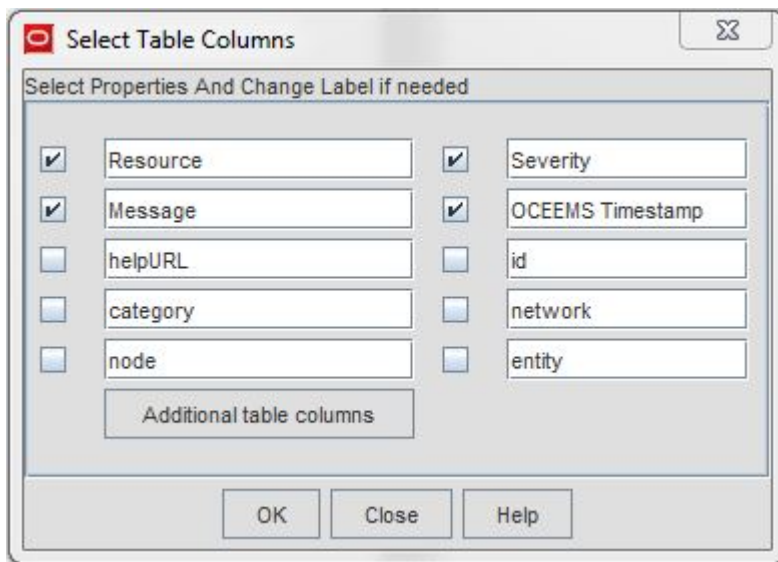
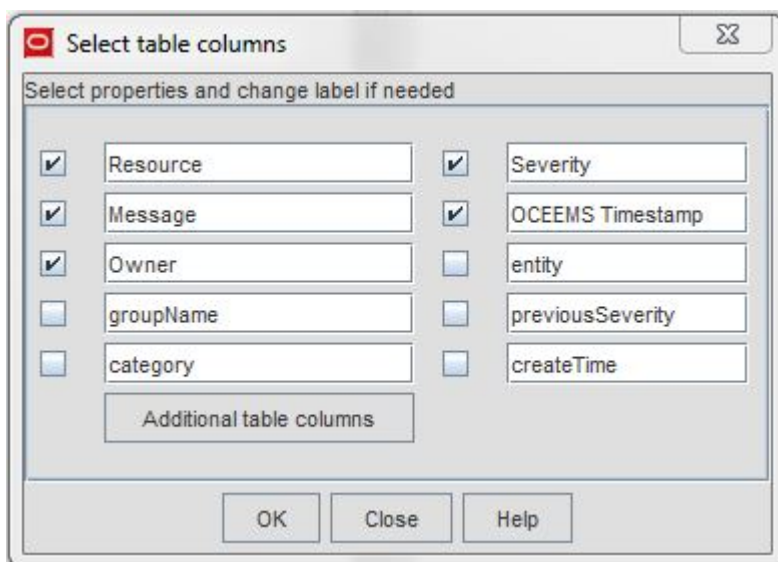

Figure 202: Selecting Table Columns for Network Events
Figure 203: Selecting Table Columns for Alarms
The **Select Table Columns** dialog box is displayed, as shown in Figure 202: Selecting Table Columns for Network Events and Figure 203: Selecting Table Columns for Alarms. The selected fields are the columns that can be seen in the resulting custom view.
3. To view additional table columns, click the **Additional table columns** button shown in Figure 202: Selecting Table Columns for Network Events and Figure 203: Selecting Table Columns for Alarms.